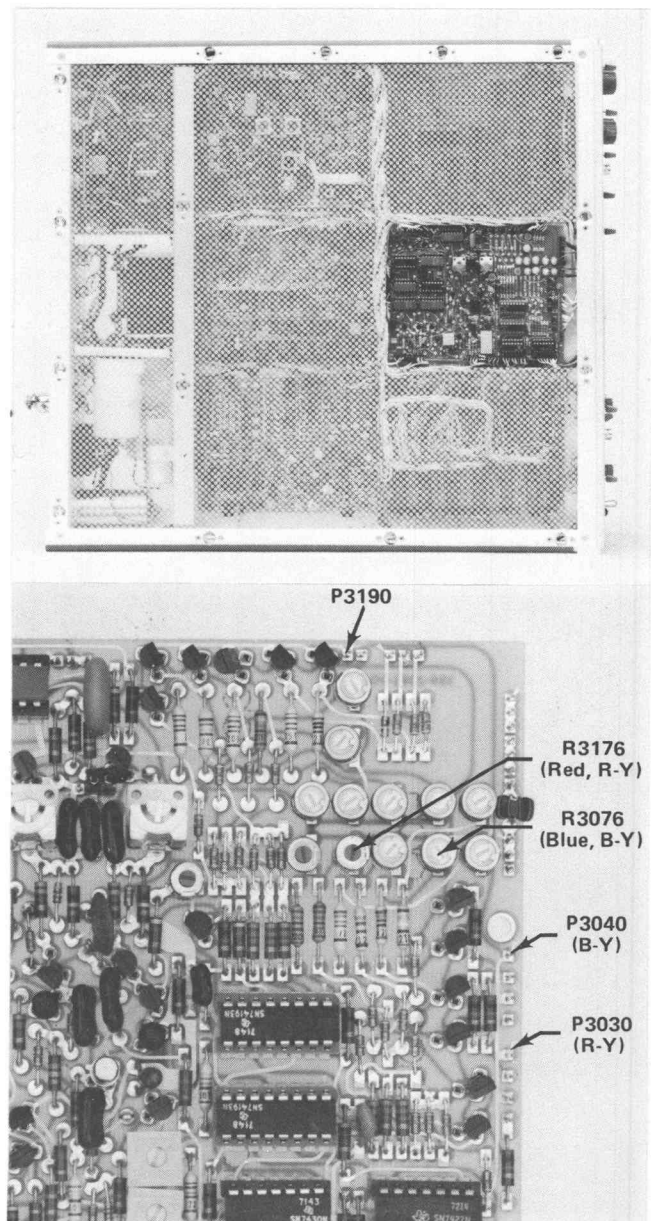
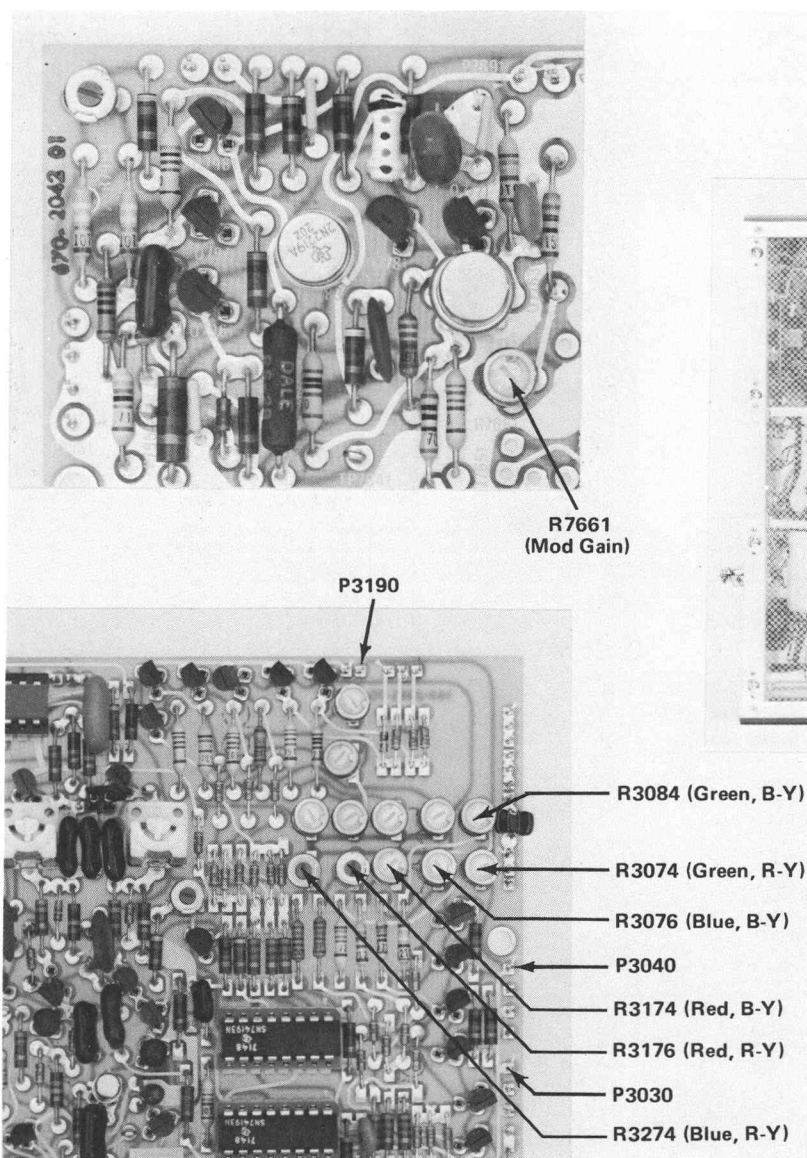

Fig. 4-11. Color Bar pin connector and adjustment location.
Fig. 4-19. Color Bar pin connector and adjustment location.
ADJUST—R3176 (Red, R-Y) and R3076 (Blue, B-Y), see Fig. 4-11, for minimum modulation on the blanking level.
b. Disconnect plug P3040 (B-Y), see Fig. 4-11. Vary the vectorscope gain to put a color bar vector on the outer graticule ring (compass rose).
c. Connect plug P3040 (B-Y) and disconnect plug P3030 (R-Y), see Fig. 4-11.
d. Disconnect P3190 (Y), see Fig. 4-11 or Fig. 4-19.
a. Disconnect plug P3040 (B-Y). See Fig. 4-19 for plug and adjustment locations. Leave P3190 (Y) disconnected.
a. Disconnect plug P3030 (R-Y). Leave P3190 (Y) disconnected. See Fig. 4-19 for plug and adjustment locations.
a. Disconnect plug P3190 (Y), see Fig. 4-19.